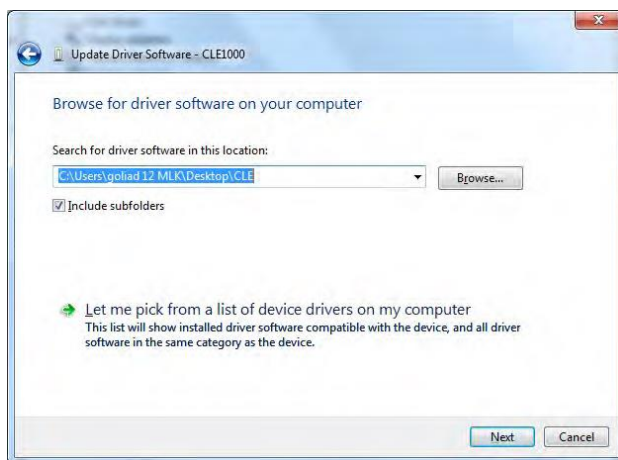

FIGURE 69. UPDATE DRIVER WINDOW
- b) Select **Browse My Computer for Driver** from Windows dialog. See Figure 69.